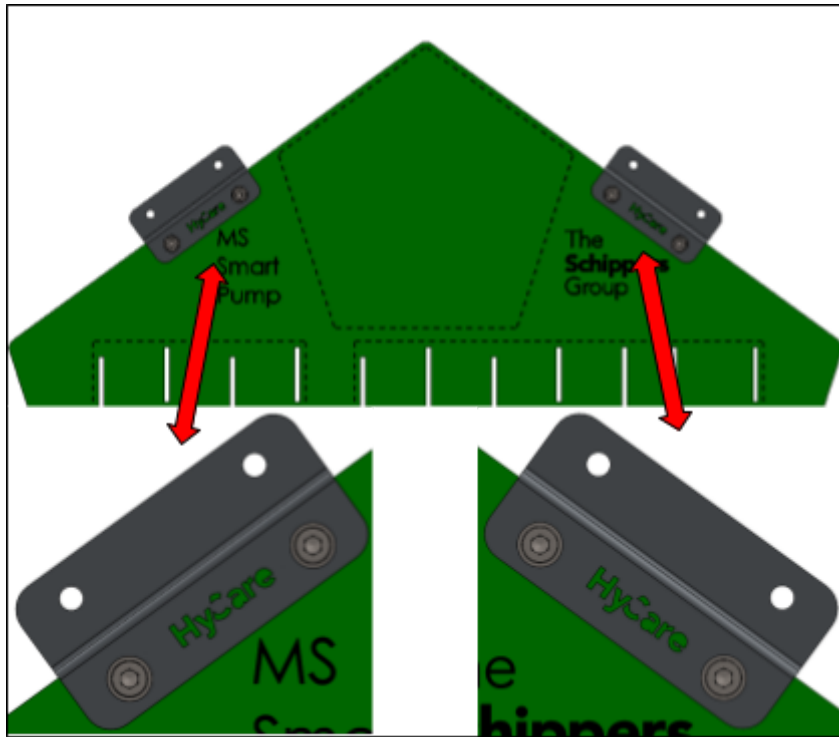

Figure 24.
- o Use Figure 24 as a reference and mark the four holes for the top mounting points of the panel.